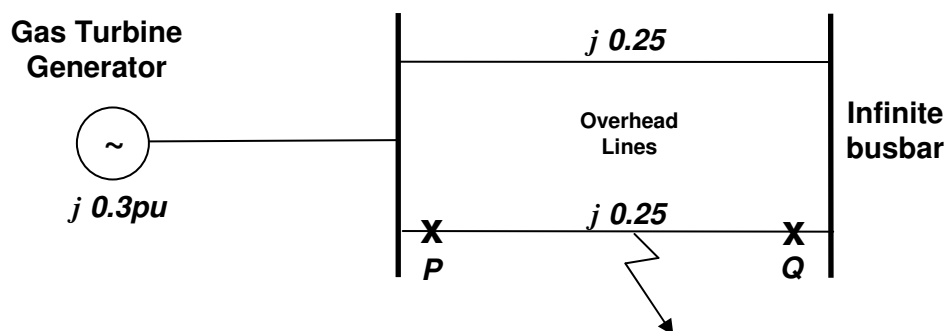

Figure 3.1 Gas Turbine driven generator and transmission system.
- a. A synchronous motor is connected to an infinite busbar system by a short transmission line. Initially the system is stable and the motor is providing constant power to a mechanical load. With the aid of a suitable diagram explain what would happen to the rotor load angle when there is a sudden increase in the mechanical load, and the conditions required to ensure the motor would not lose synchronism. (4)
- b. A 50MVA gas turbine driven synchronous machine, having a synchronous reactance of  $j0.3$  pu, delivers 40MW over a double-circuit transmission line to a large power system which may be regarded as an infinite busbar. The transmission system has negligible resistance, and each line has a reactance of  $j0.25$  pu as shown in Figure 3.1. The generator voltage is 1.1 pu and the voltage of the infinite busbar is 1.0 pu.